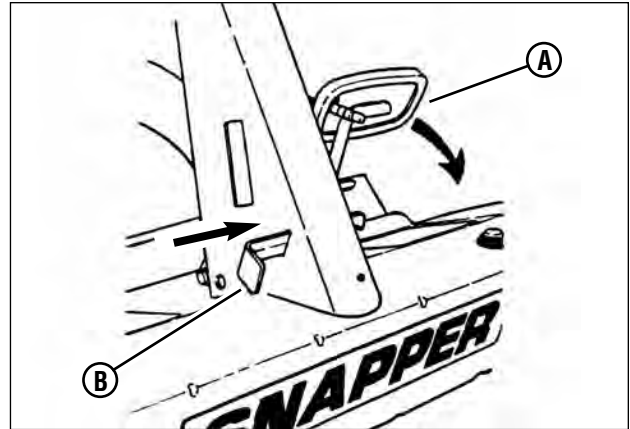

Figure 8: Setting the park brake
3. Press the Clutch/Brake Pedal (A, Figure 8) all the way down, move the park brake latch (B) over, and release the clutch/brake pedal to set the park brake.